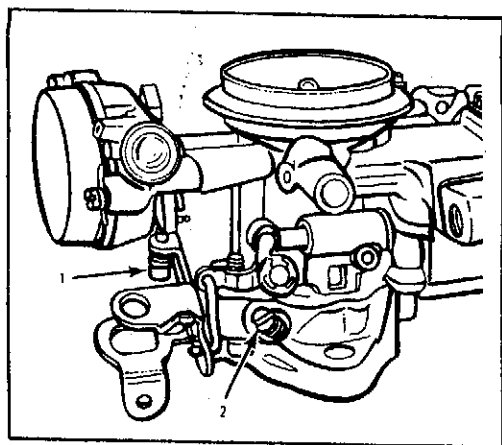

Figure 5
5. IDLE ADJUSTMENT (Fig. 5)
- Rotate throttle stop screw (1) to slightly open throttle.
- Rotate idle adjusting screw (2), in or out, until engine idles smoothly.
- Rotate throttle stop screw (1) for proper R.P.M.
- Recheck idle adjusting screw (2) for best setting.